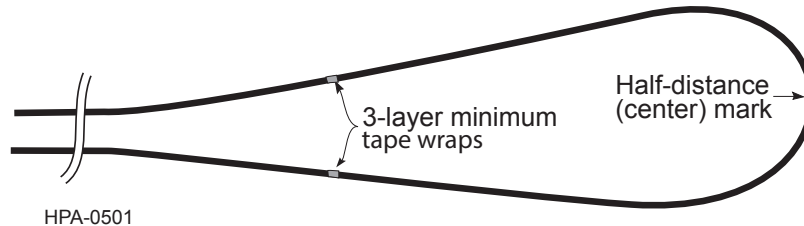

Figure 13
- Step 4:** Wrap each of these points with at least 3 wraps of vinyl tape. The total length from tape wrap to tape wrap should equal the full desired strip length (Figure 13). *These wraps will permanently remain on the cable.*